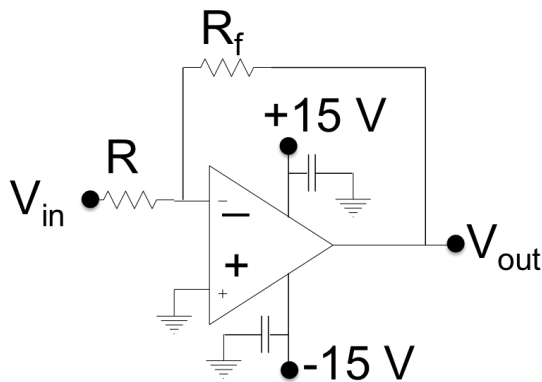
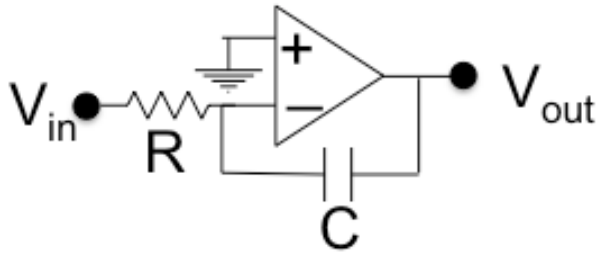

Figure 1. Inverting Amplifier
Figure 3. Integrator
The basic inverting amplifier is shown in Figure 1. We can use the Golden Rules to determine the low-frequency gain. Since the positive input is grounded, the op-amp will do everything it can to keep the negative input at ground as
The basic op-amp integrator is shown in Fig. 3. As compared to the inverting amplifier in Fig. 1, the only change is a replacement of the feedback resistor R_f with a capacitor C . An integrator is the same circuit as a low-pass filter. If you are interested in what frequencies get passed, you call it a low-pass filter. If you are interested in integrating the input signal, you call it an integrator. We can understand how the integrator works by applying the Golden Rules and remembering the defining equation for capacitors. Just as in the integrating amplifier, the Golden Rules tells us that $V_- \approx V_+ = 0$ and that the current across both components is the same because no current flows into the op-amp. We label I_R as the current through the resistor, which is V_{in}/R since V_- is at ground. We label I_C as the current across the capacitor. The defining equation for capacitors is $Q=CV$. The current through a capacitor is $I = dQ/dt = d(CV)/dt = CdV/dt$. Therefore, the equation $I_R = I_C$ becomes:
Question 1	<p>Inverting amplifier</p> <ol style="list-style-type: none"> a. Calculate the values of low frequency gain G_0 and the bandwidth f_B for the inverting amplifier in Fig 1 for the following circuit you will build in lab with the following resistors. 1) $R_F = 100 \text{ k}\Omega$, $R = 10 \text{ k}\Omega$ b. Graph a Bode plot for the open loop gain and the closed loop gain for the circuit from part (a) on the same graph using Mathematica.
Question 3	<p>Integrator</p> <p>So far you have been looking at the output versus frequency (Bode plots). Now you will also consider the output versus time.</p> <ol style="list-style-type: none"> a. Design an integrator based on Fig. 3 and the discussion above. Choose values for the components (resistors and capacitors) and describe why you chose those values. b. List some possible applications for the integrator. c. Sketch the time response of your circuit (or you could use Mathematica if you wish) for the following input waveforms: square wave, triangle wave, and sine wave. Hint: you can use your calculus.
Step 1	<p>Frequency Dependent Gain</p> <ol style="list-style-type: none"> Build the inverting amplifier shown in Fig. 1, with $R_F = 100 \text{ k}\Omega$ and $R = 10 \text{ k}\Omega$. Measure R and R_F with the DMM before inserting them into the circuit board. Predict G_0 and f_B from these measured values and the op-amp's value of f_T from the data sheet. (You should be able to review your lab-prep work here too!) Use the function generator to measure the low frequency gain. What frequency should you use to test the low frequency gain (i.e., what frequency should the signal be below?) Consider the gain-bandwidth product and how it relates to your circuit. What is the predicted gain for the frequency you chose? Measure the low frequency gain G_0 by measuring V_{in} and V_{out} using the scope. Do your measurements agree with your predictions? Predict the 3 dB frequency for your circuit. Include your calculations in your lab book. Now, determine the 3 dB frequency experimentally. Describe the procedure you followed to determine f_B. Does your measurement agree with your prediction? Explicitly record what criteria you used to determine whether or not the model and measurements agree. Using the gain-bandwidth relation and your measurements of G_0 and f_B to determine f_T for your op-amp. Does your measured value of f_T agree with the one from the datasheet? Measure the frequency dependence of your circuit. Measure the gain at every decade in frequency from 10 MHz down to 10 Hz. Should you use a 10X probe or coax cable to make your measurements? Explain your reasoning. Plot your measurements and predicted gain curve on the same plot. Where, if at all, is the simple model of the op-amp circuit not valid? Suggest possible model refinements and/or physical system refinements to get better agreement between the model predictions and measurements.